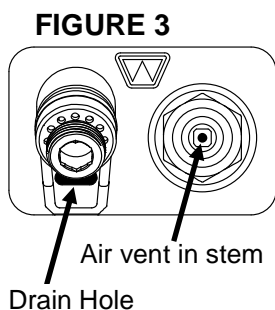

FIGURE 3
8. The operating stem air vent **must not** be plugged to ensure proper draining. FIGURE 3